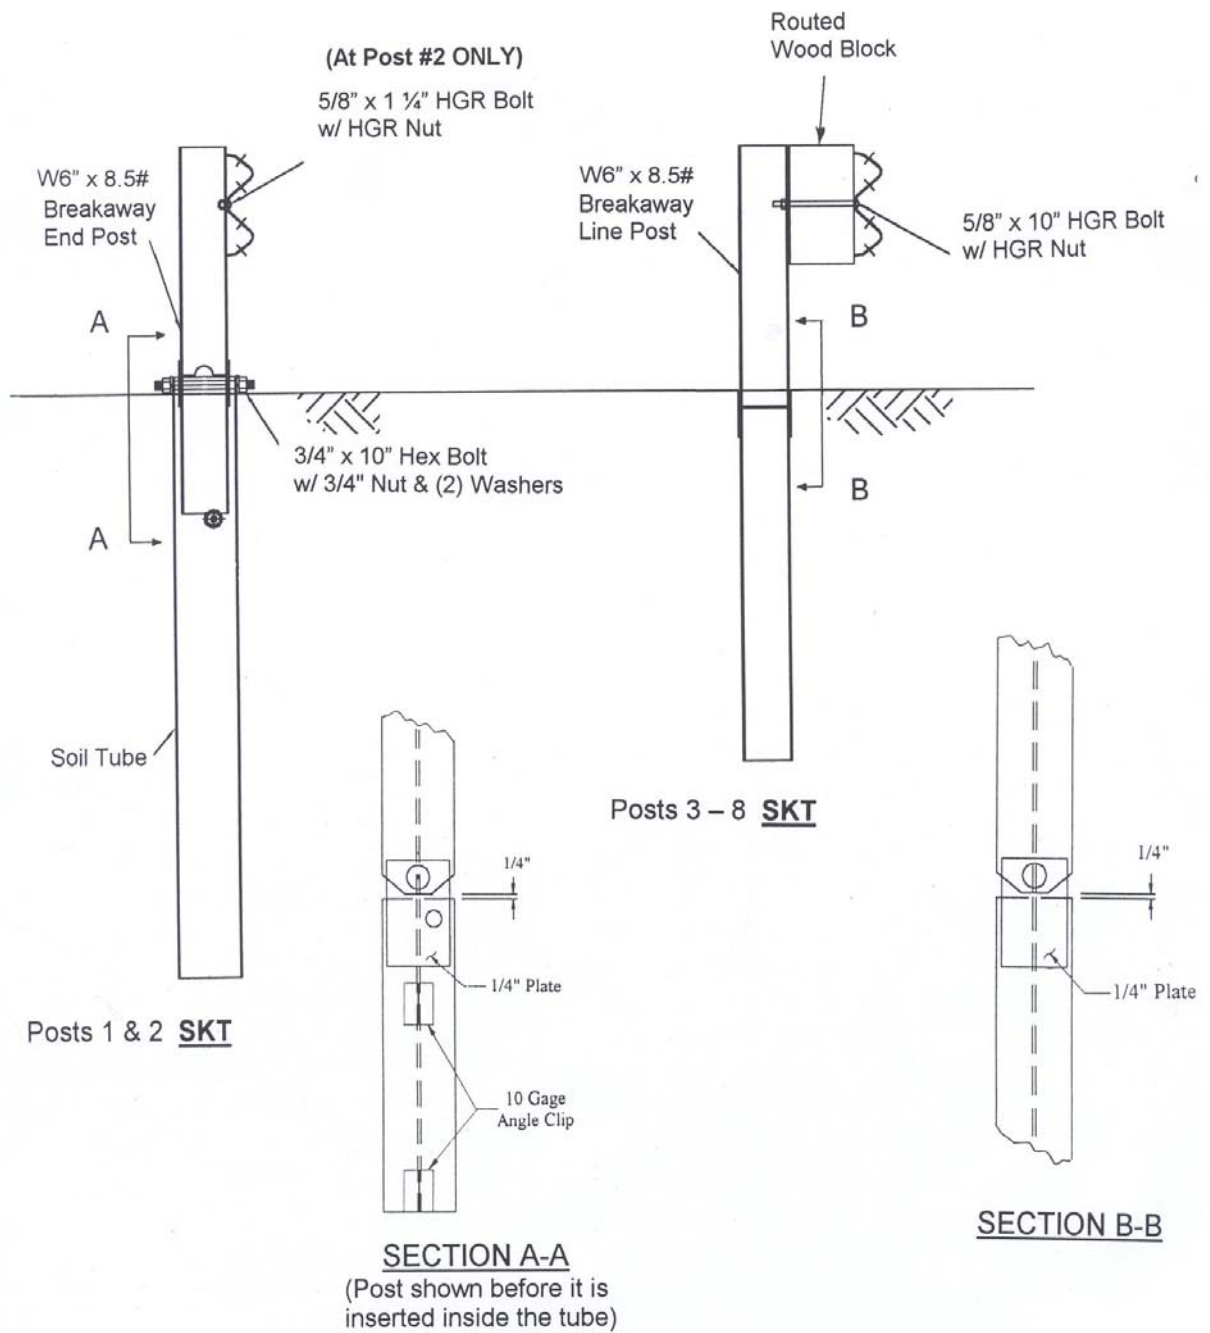
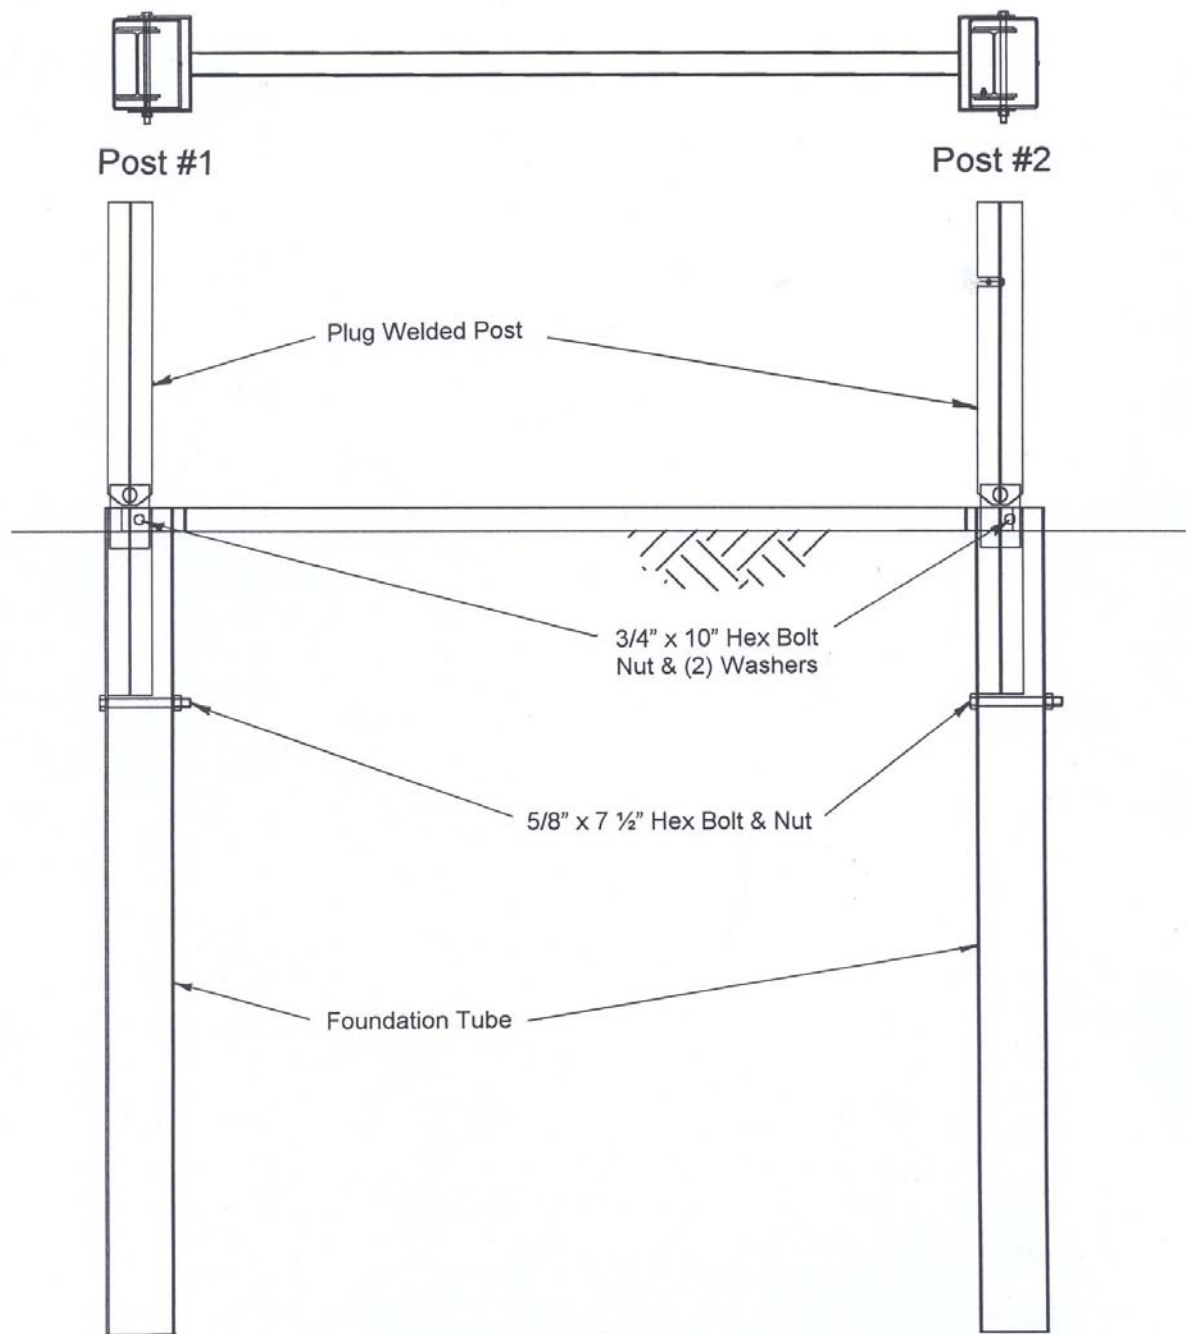

Figure 3. Section View of Plug Welded Steel End Posts and Line Posts
Figure 4. SKT Ground Strut Anchorage for Plug Welded Steel Post
- Install steel line posts #3 through #8. The Plug Welded Posts are shop welded and arrive as a single post. (See **Figure 3**). The Hinged Bolted Posts have a top and bottom half that are bolted together in the field. (See **Figure 7**).
- Install steel end posts #1 and #2 with groundline strut. The Plug Welded Posts are inserted in a steel foundation tube. (See **Figure 4**). These posts are shop welded and arrive as a single post. (See **Figure 3**). The Hinged Bolted Posts do not use a foundation tube. (See **Figure 5**). These posts have a top and bottom half that are bolted together in the field. (See **Figure 7**).
Steel posts 1 & 2 may be installed with either a Hinged Steel Post or Plug Welded Steel Post option. **Figure 8** shows the above ground details. A ground strut is required for both options but note that different struts are used in order to accommodate the 6" Hinged Post as opposed to the 8" wide foundation tube. **Figures 4 & 5** show the ground strut sections.